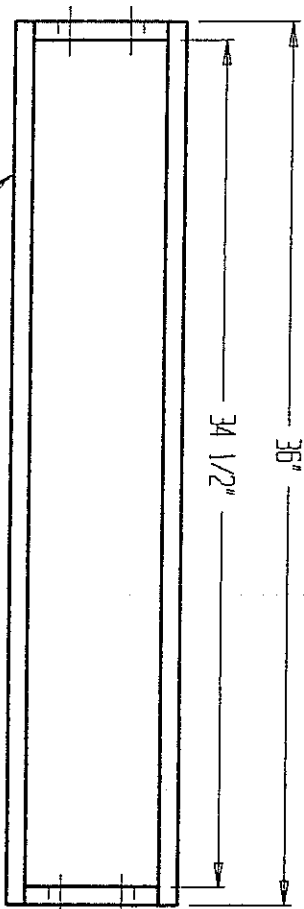

Fig. 1
4. Mark a 1 3/4" circle 8 3/4" from one end on working line. See figure 1.
5. Mark a 7/8" radius arc 7/8" in from the edge on each side and 7/8" from the ends. See fig. 1.
9. Connect marks to opposite corners and saw along line to obtain taper. See fig. 1.
11. Assemble with 1 1/2" Sheet-rock screws as shown in figure 1.